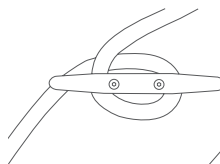

Fig 24 -
1. Make one full turn around the cleat in a clockwise direction and pull tight (Fig 24).